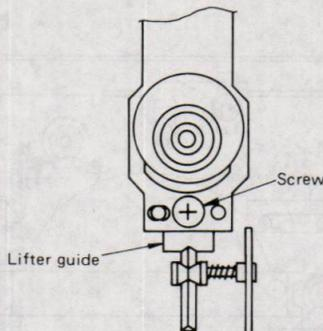

Fig. 13
- 5) Remove the screw shown in Fig. 13 and remove the lifter guide from the tone arm.